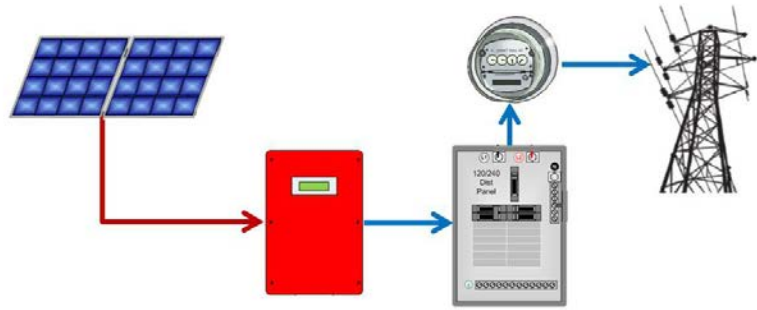

Figure 2 - Grid Tied Inverter Current Flow
The vast majority of DC to AC grid tied inverters move excess DC power from photovoltaic (PV) arrays to the utility power grid once the site’s local power demand has been met, as illustrated in Figure 2.